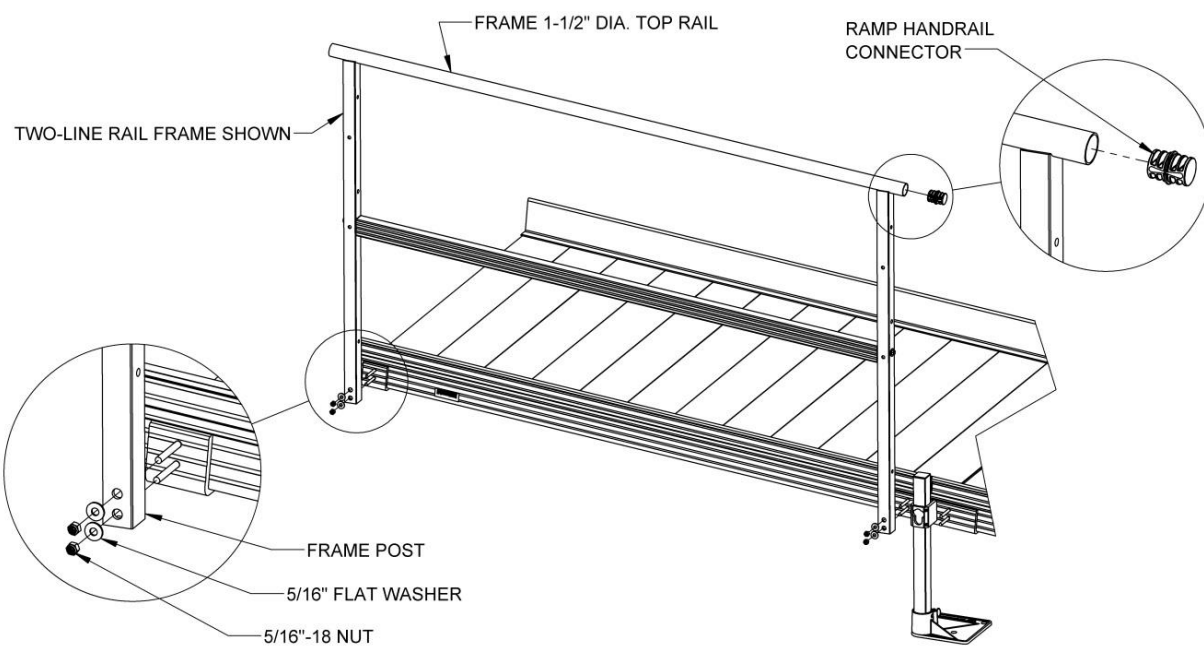

FIG. 4.1
- 4.1.3. In a multiple ramp run configuration, handrail connectors (included in the PHDRRC – CONNECTOR RAMP TO RAMP) are used to join both frame top rails and handrails together. Refer to FIGs. 4.1 and 4.2 for the following steps: